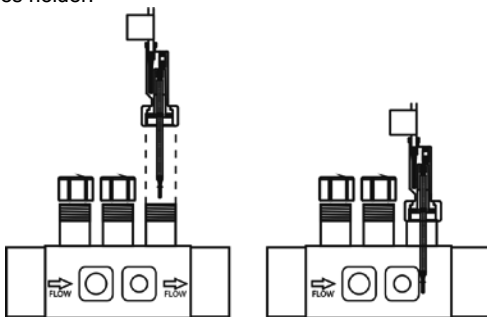

Fig. 2b
2. Install the flow detector (flow switch) supplied vertically in the sensor holder supplied with the equipment (Fig. 2b).